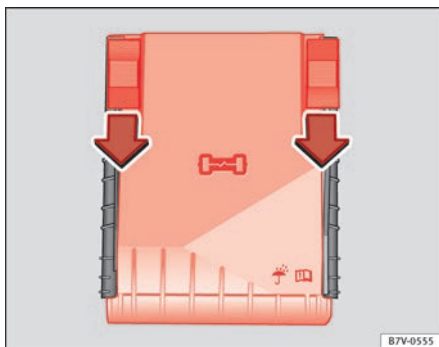

Fig. 200 In the engine compartment: fuse box cover.
- Move the attachment tabs forwards, in the direction indicated by the arrow to release the fuse box cover ⇒ fig. 200.